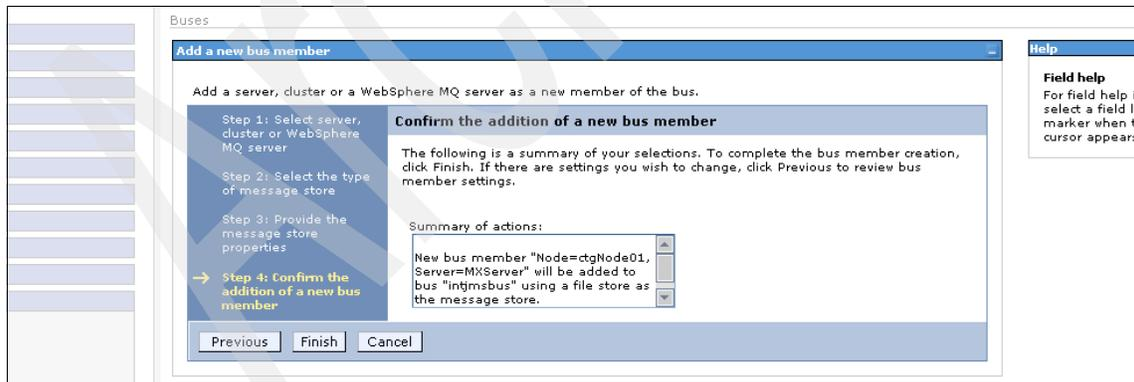

Figure A-28 Finish
- Click **Finish** (see Figure A-28).